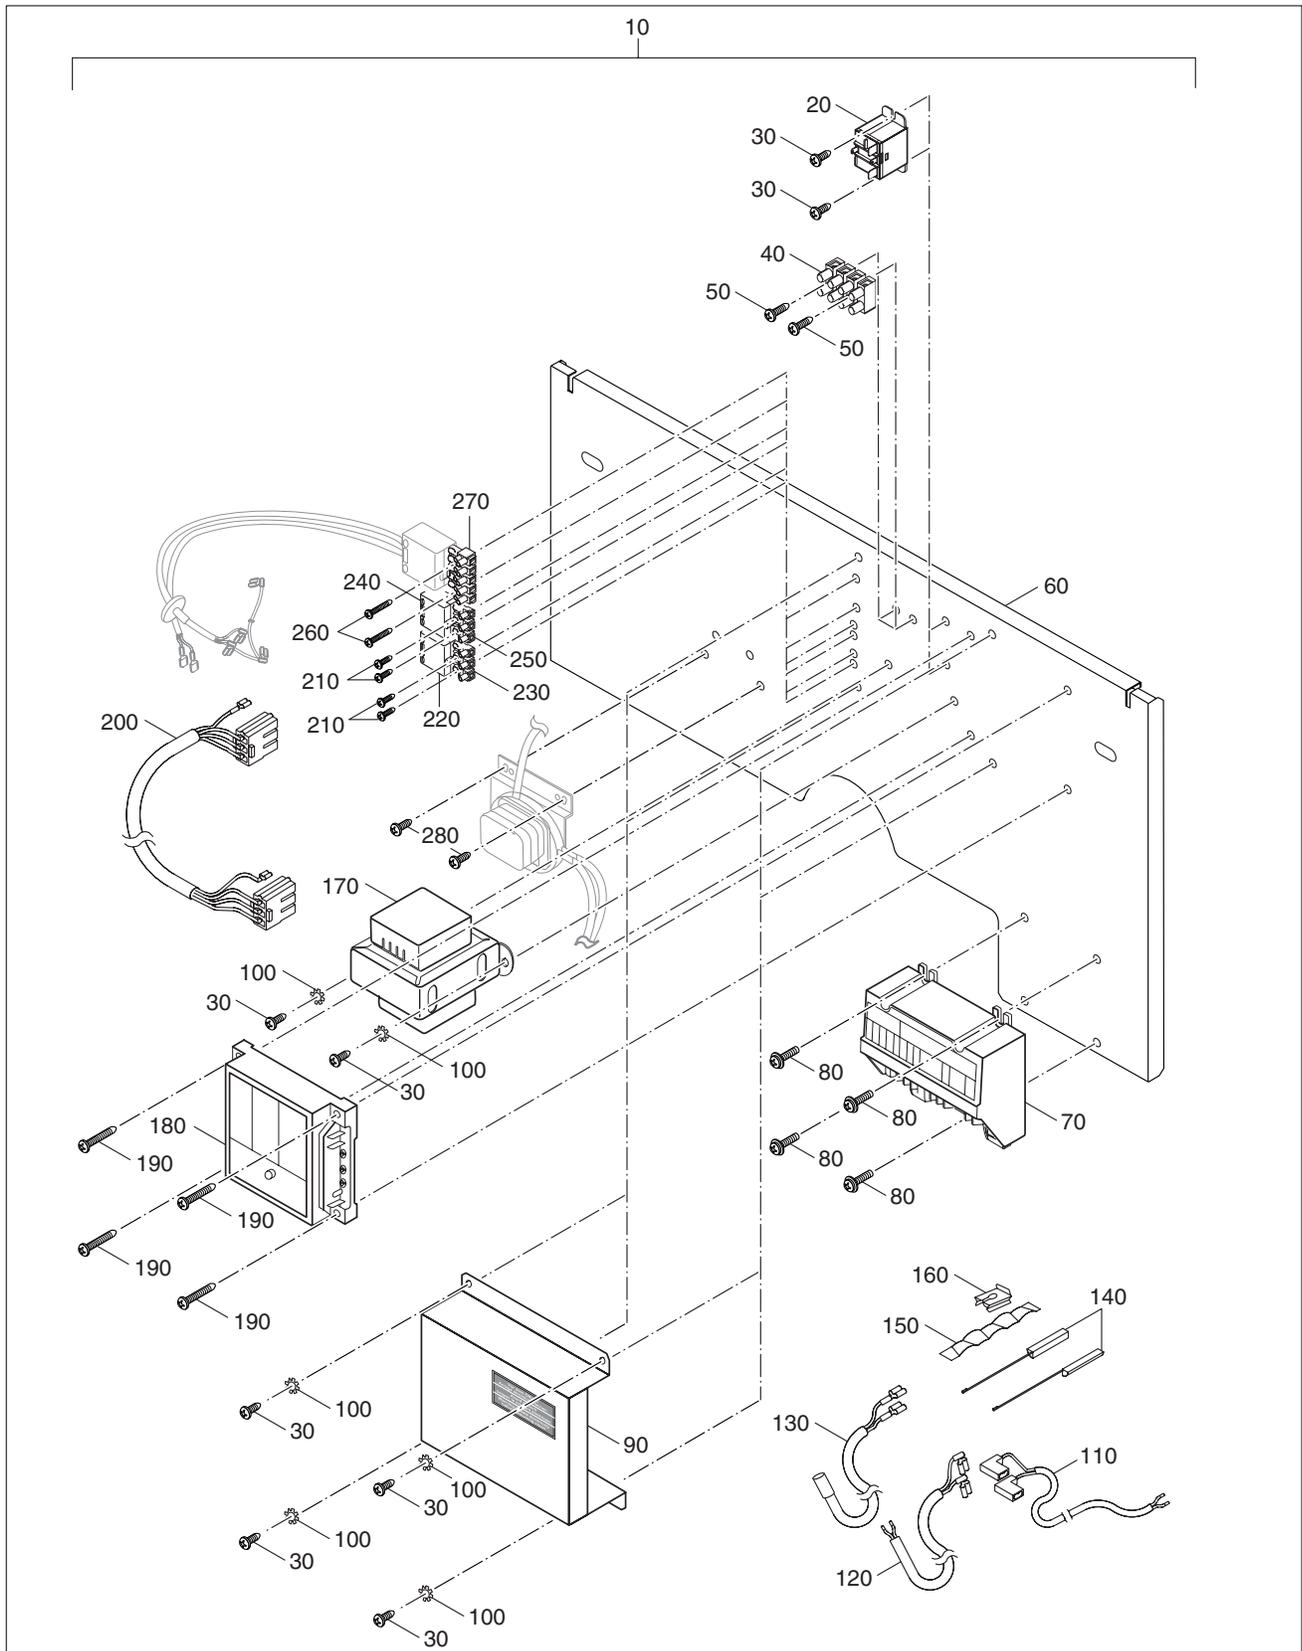

Fig. 43 Control panel GAW028
## Control panel GAW028 (Fig. 43)
**Control panel GAW028 (Fig. 43)**